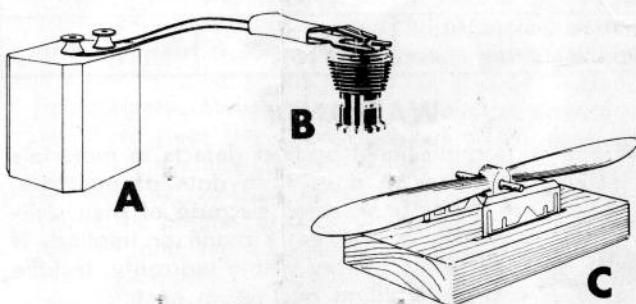

Fig. 3
4. Procure a 1½ volt dry cell battery, #6 or equivalent, and connect it with 2 flexible insulated wires to the glow plug clip as shown in the diagram A and B-Fig. 3. Do not use a stronger battery. If you do, the plug will burn out. The connections should be soldered to insure good contact, and taped to prevent bare ends of wire from getting together and "shorting" the battery. Be sure the battery is a good one. Your dealer sells batteries and glow plug clips. The Thimble Drome plastic mounted glow plug clip with wires already attached is recommended, and requires no soldering. (Cat. #755—35c).
the edges of the blades. Fit a drill or shaft through the hole and rest the shaft on razor blades set in wooden blocks as shown in C-Fig. 3. Sand the heavy blade until the propeller will balance in a horizontal position. Care must be taken to do the sanding without spoiling the airfoil characteristics of the propeller blades. Caution: use only nylon or wooden props. Styrene props are extremely dangerous on these engines.
5. Connect the battery by snapping the clip on the glow head B-Fig. 3.